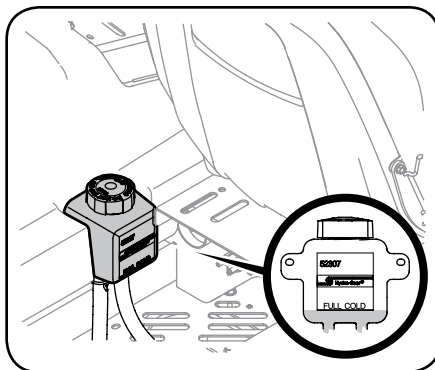

Figure 4-8
1. Clean the reservoir cap and the area around the cap to prevent debris from contaminating the transmission oil. See Figure 4-8.
2. Turn the reservoir cap counter-clockwise to remove, then check the oil level in the reservoir. Oil should be visible at the bottom of the cup, but the oil level must NOT be above the "FULL COLD" line. See Figure 4-8. DO NOT FILL THE RESERVOIR.